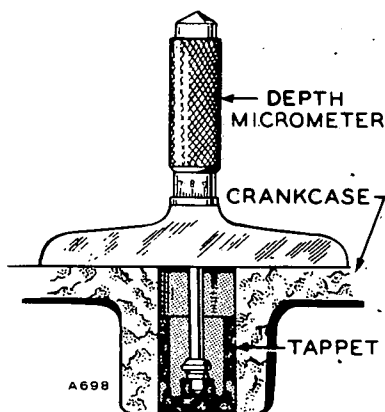

FIGURE 22. DEPTH MICROMETER
1. Install pump tappet in its recess and position flywheel on the port closing mark (PC) of the compression stroke.
2. Using a depth micrometer, measure the distance from the pump mounting pad on the crankcase to the tappet center. See Figure 22.